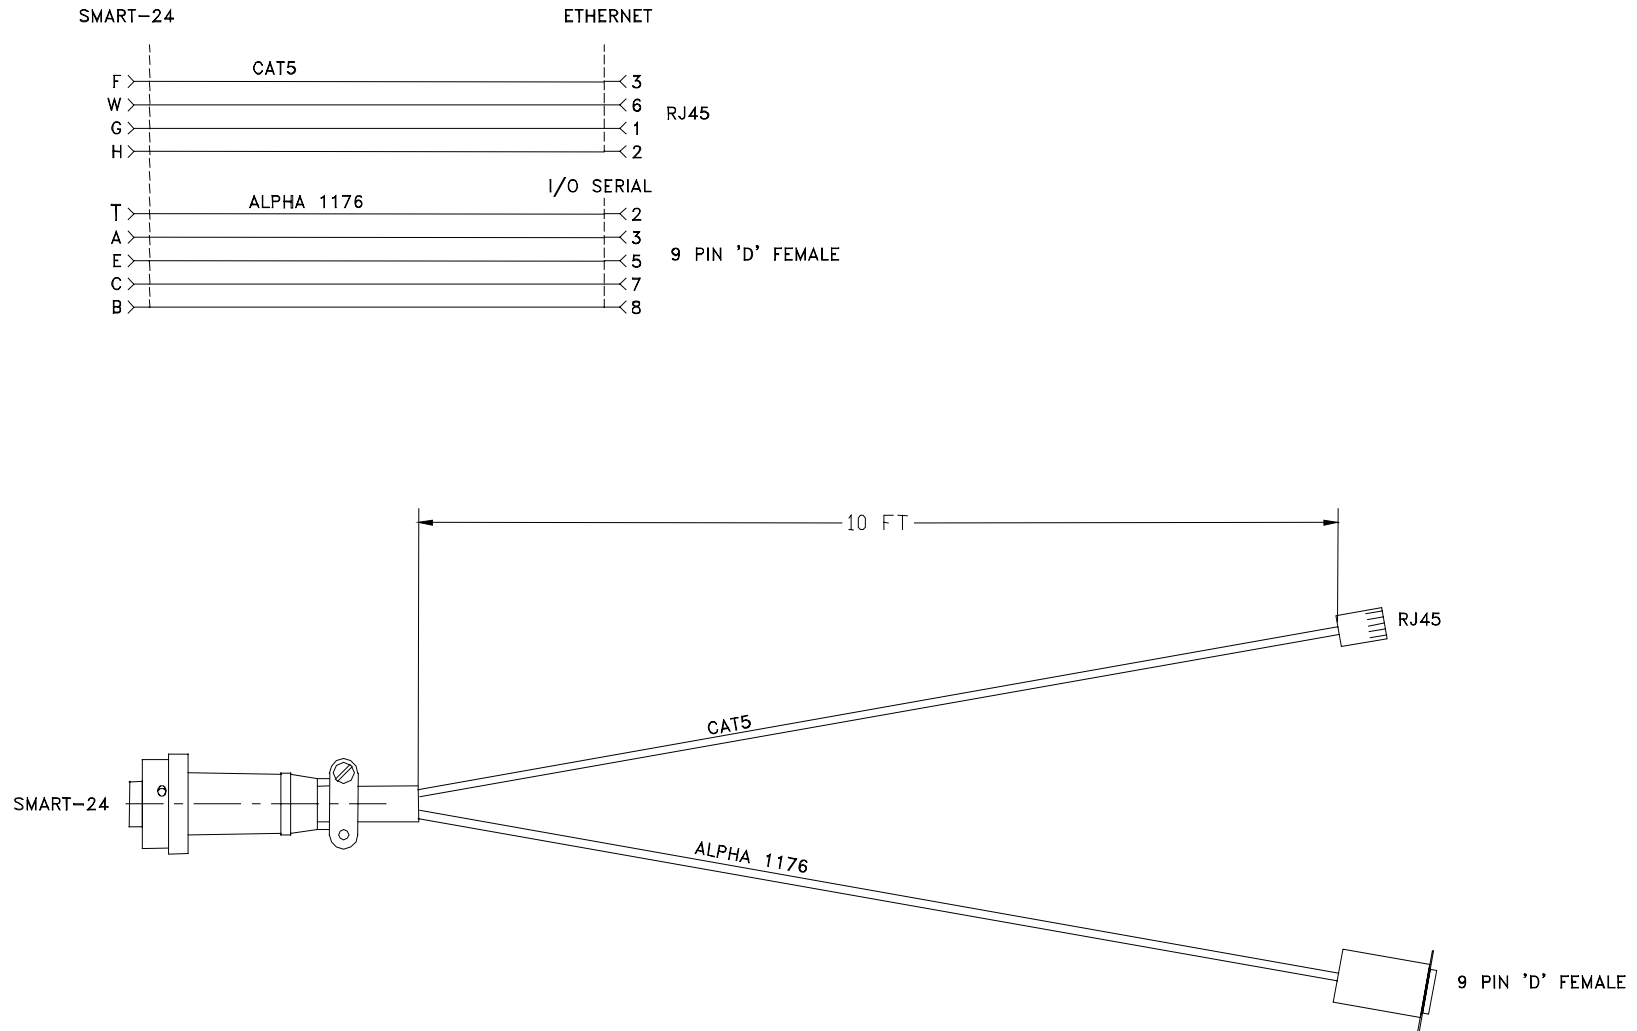

Figure A-2. SMART-24 I/O Cable, Serial to 9 Pin PC Plus Ethernet
- Figure A-2. SMART-24 I/O Cable, Serial to 9 Pin PC Plus Ethernet